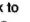

Fig. 21
- Press OK. (See Fig. 21.) When you select programmes using the PROGR +/- buttons, the programme position will be skipped.